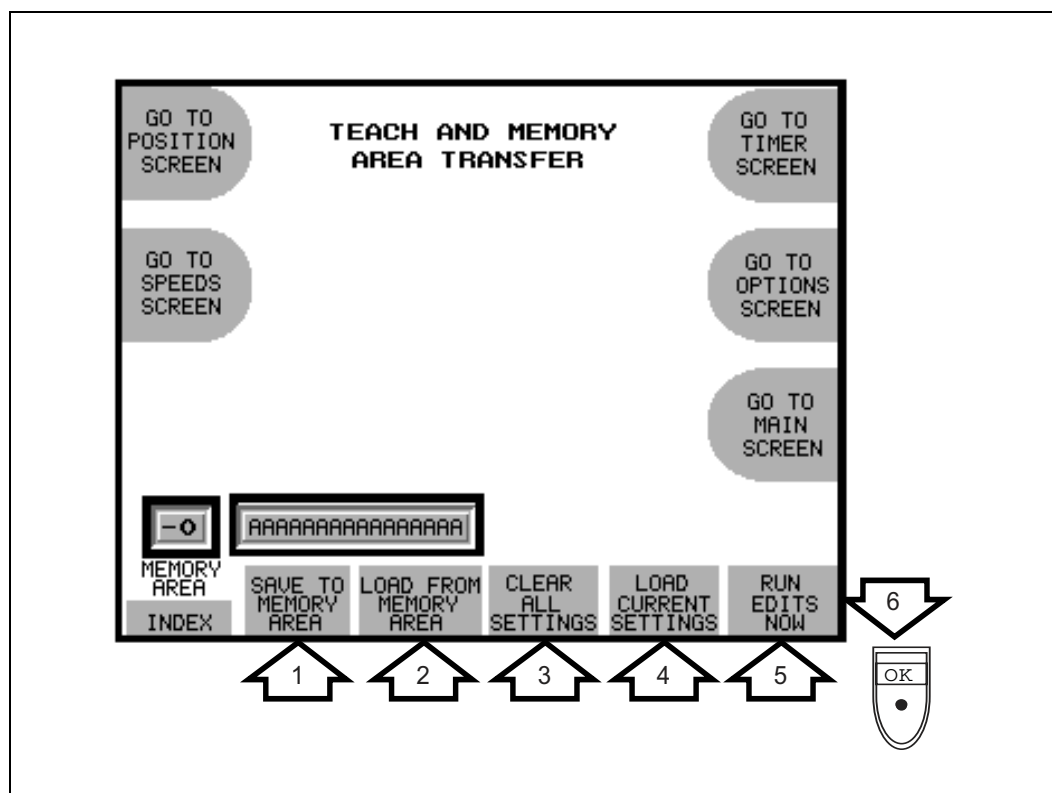

Figure 7-1: Teach and Memory Area Transfer Screen
The Teach and Memory Area Transfer Screen provides the interface to begin setting the parameter list for a program (Figure 7-1).
Use the keys at the bottom of the Teach and Memory Area Transfer Screen (Figure 7-1) to:
- Load the Current Settings onto the Scratchpad (#4 on Figure 7-1)
- Press the **SAVE TO MEMORY AREA** key (#1 on Figure 7-1) to save the changes in the HMI memory.
- Press **RUN EDITS NOW** key (#5 on Figure 7-1) to save the scratchpad to the current settings.